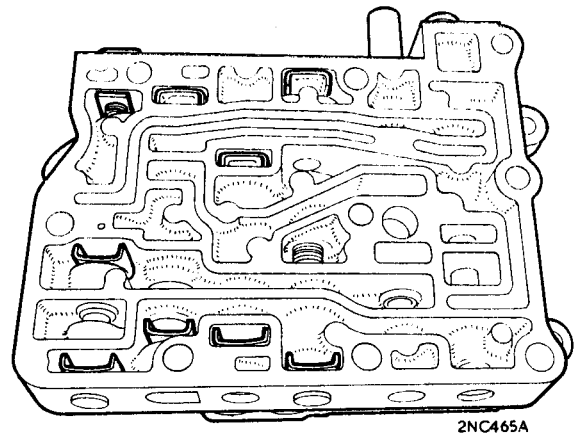
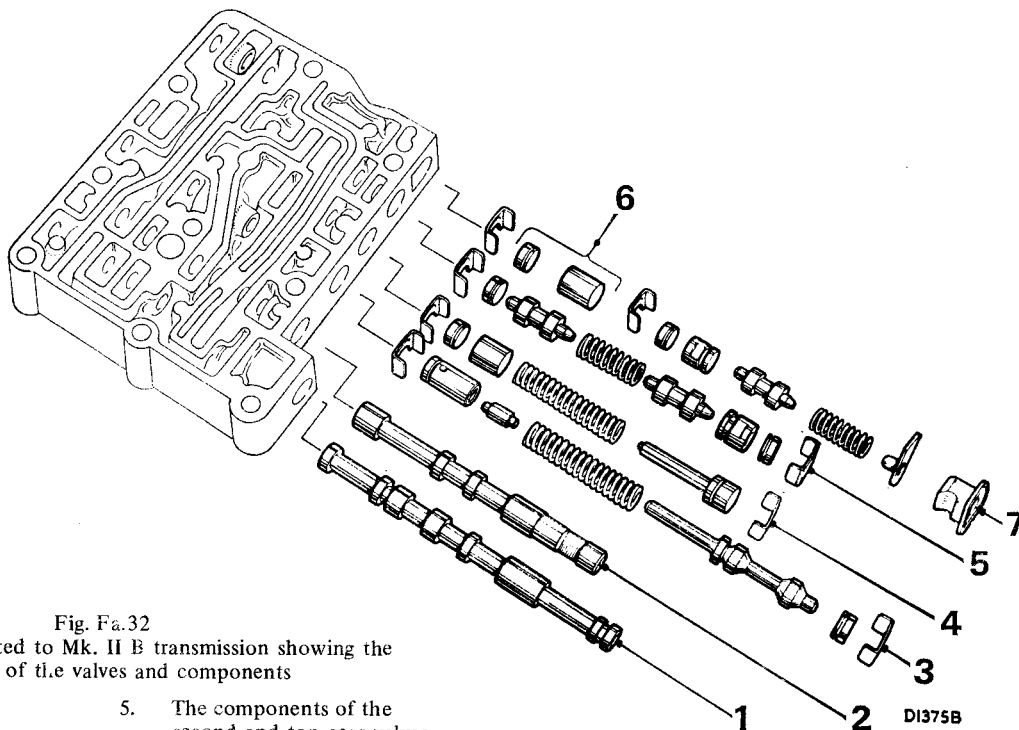
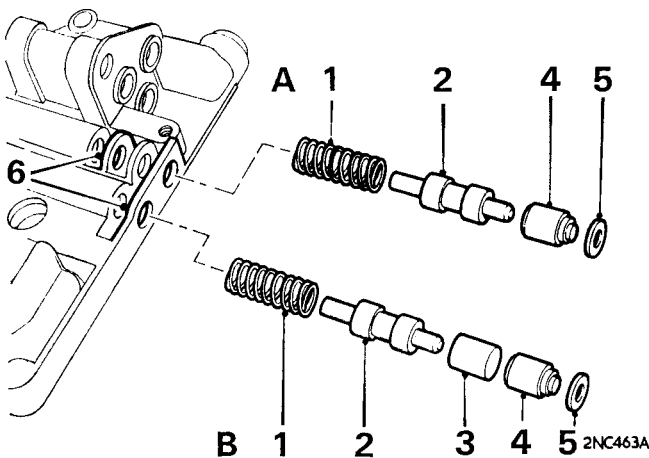

Fig. Fa.33
Fig. Fa.32
Fig. Fa.34
8. Reassemble for each valve assembly into its correct bore in the reverse order of dismantling (see Fig. Fa.32). Check that the 'C' clips and plugs have been correctly located in the valve chest, as shown in Fig. Fa.33, and then the retaining washers of the shuttle valves are properly seated in their correct locations (see Fig. Fa.34).